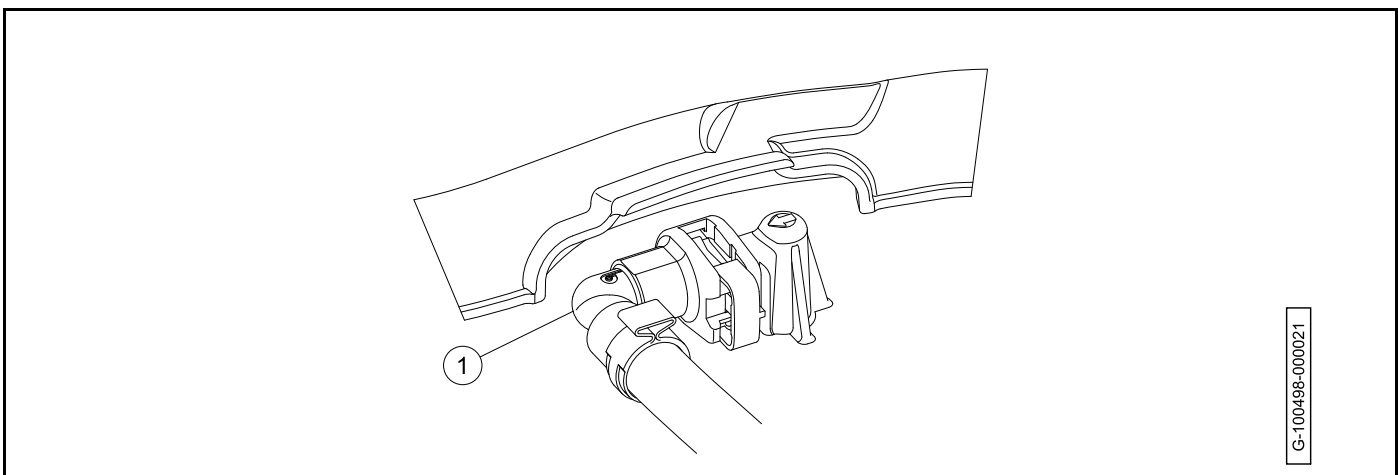

Figure 22-17
7. Rotate the fuel line connector (1) 180 degrees and connect it to the nipple (**Figure 22-17, Page 22-16**).